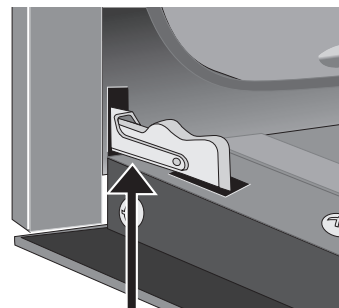

Figure 38: Hinge in locked position
4. Push both the door hinge locks up towards and into the oven frame to the locked position (Figure 38).